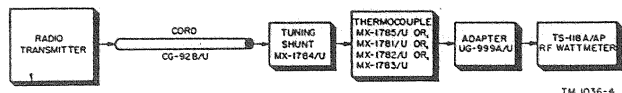

Figure 4. Block Diagram
(1) Locate the wattmeter where the Cord CG-92B/U will connect the transmitter to the wattmeter and where the meter is conveniently readable while adjusting the transmitter.
(2) Connect one end of the Cord CG-92B/U to the transmitter output terminal and the other end to the Shunt Tuning Unit MX-1784/U. This Tuning Shunt is in turn connected to the thermocouple selected and the thermocouple to the wattmeter connector Adapter UG-999A/U. If these units are connected correctly, the sex of the "N" type connectors will mate and adapters or patch cords will not be needed, see Block Diagram, Fig. 4. This is the connection recommended for accurate power measurements.